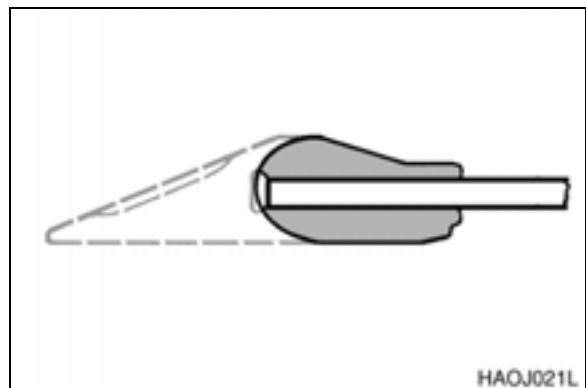

Figure 21
2. Do not allow replaceable bucket teeth to wear down to the point that bucket adapter is exposed. (Figure 21)